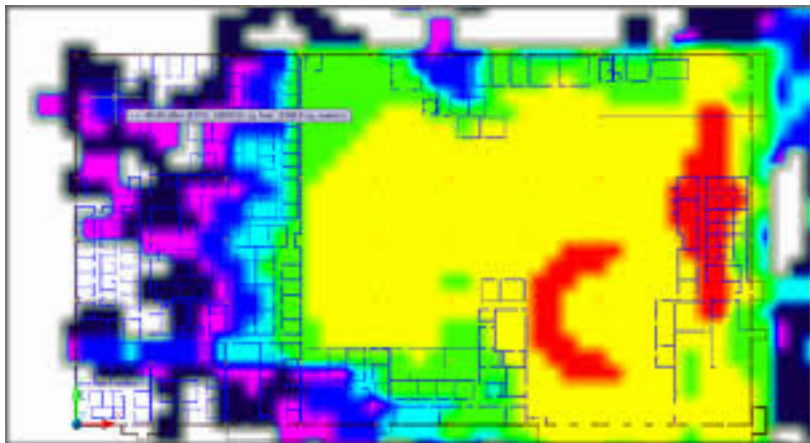

Figure 27. Design heat map
2. RF “heat” maps, like the one shown in Figure 27, are a color-coded representation of predicted RF levels received.